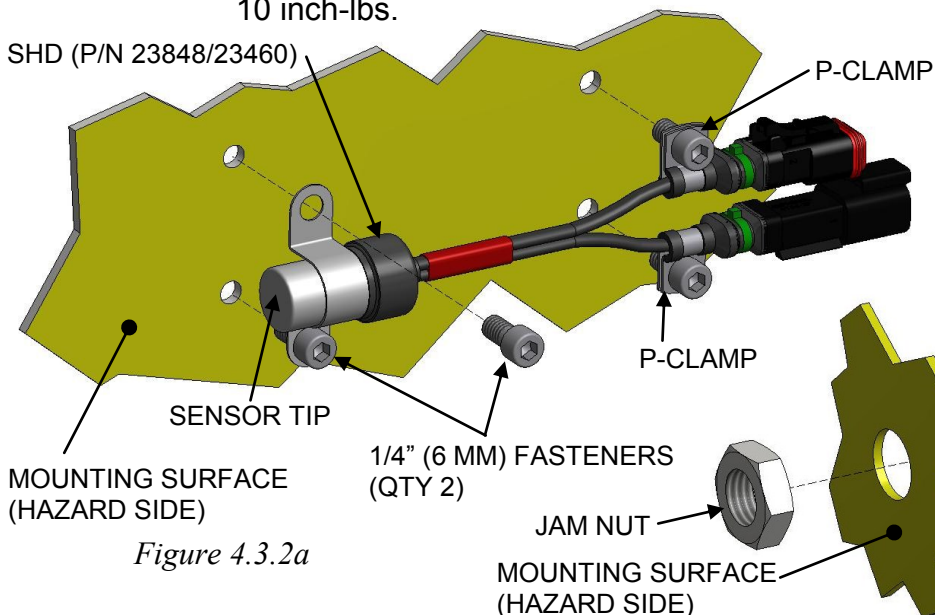
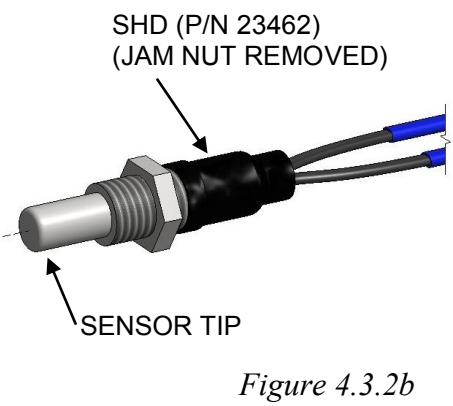

Figure 4.3.2a
Figure 4.3.2b
- Secure the SHD sensor wiring using a padded p-clamp located on or within 4" (0.1 m) of each connector (See Figure 4.3.2a).
- The bracket style SHDs (P/N 23848/23460) must be mounted using their standard bracket and the appropriate hardware (See Figure 4.3.2a). The bulkhead style SHD (P/N 23462) must be mounted in a bulkhead configuration (See Figure 4.3.2b) by drilling a single 25/32" to 7/8" hole through the bulkhead (3/16" MAX thickness) and inserting the SHD. Secure by threading the 1 1/8" jam nut to the threaded portion of the SHD using a medium grade thread locking compound. Tighten to a maximum of 10 inch-lbs.